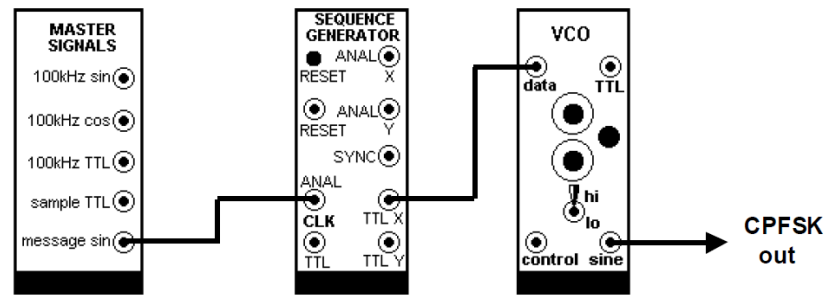

Figure 4: CPFSK generation
1. Set up the circuit for CPFSK modulation as shown in Figure 4. Make sure that the on board switch is set to FSK. Set the toggle switch to LO.